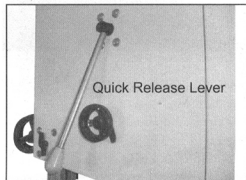

Fig.14
- c) Release the blade tension by rotating the quick release lever (Fig.14) clockwise.
- f) Re-tension the new blade by rotating the quick release lever (Fig.14) counterclockwise and check the blade tracking. The blade should turn in the center of the bandwheel. Refer to "Tracking the Saw Blade" on page 6 for more details.